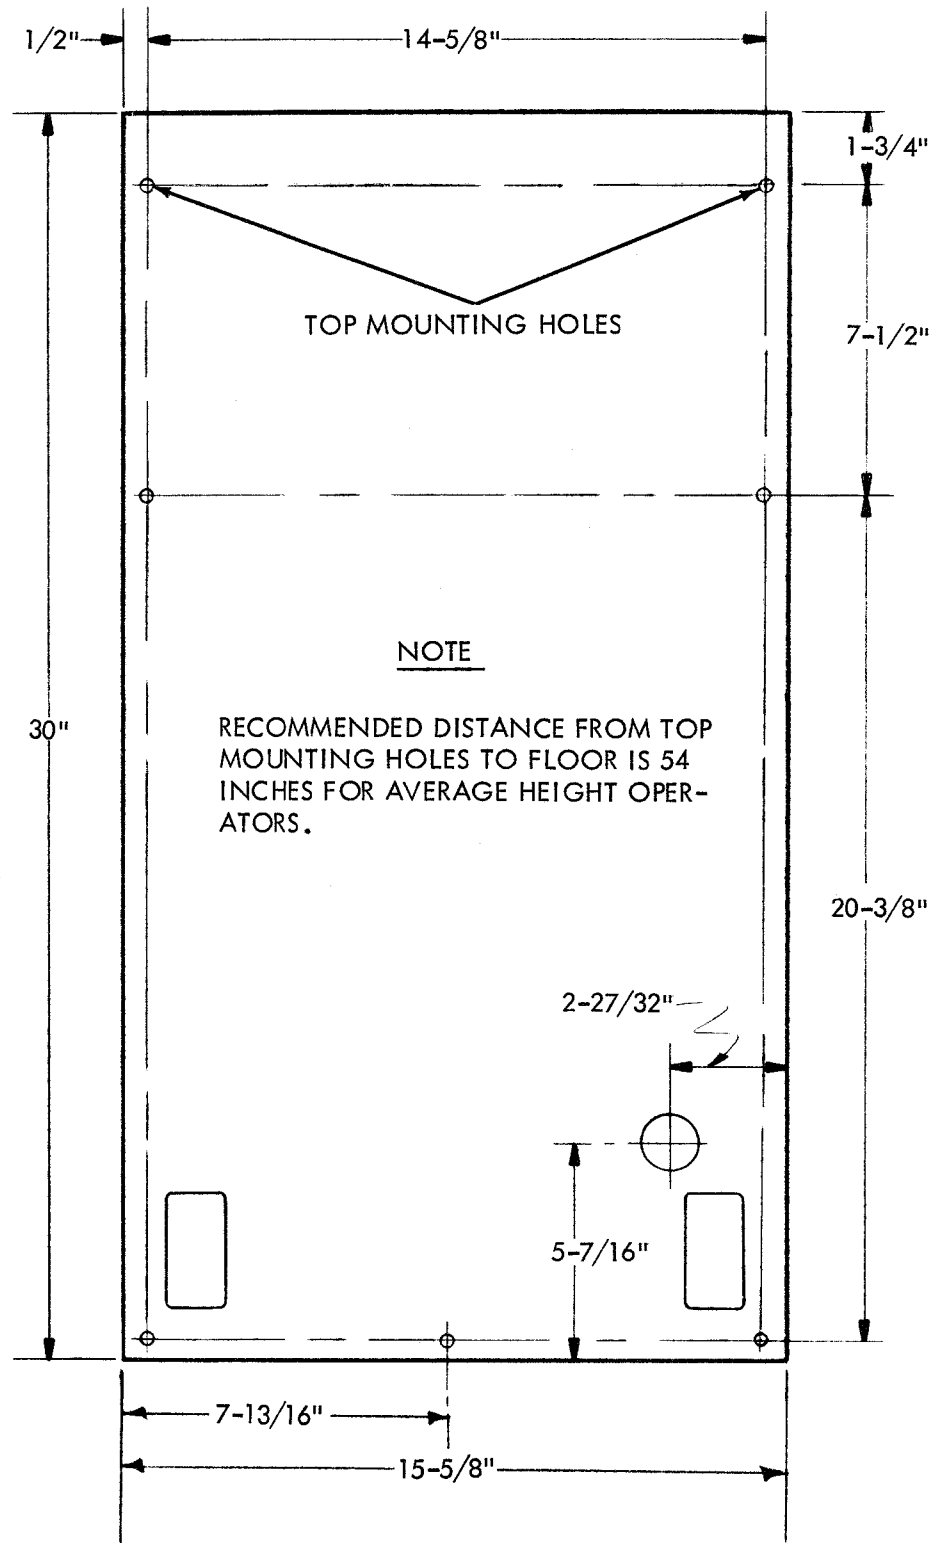

Figure 1 - Location of Mounting Holes for Back Plate
b. The locations of the mounting holes on the back plate assembly are shown in Figure 1. Since the horizontal distance between holes is 14-5/8 inches, the back plate cannot be mounted on standard 16 inch center-to-center wall studs. When attaching the back plate assembly to wall structures where the existing mounting holes are unsatisfactory, alternate holes may be added along the side and bottom edges. No mounting hardware can be located along the upper central edge since the existence of such hardware would interfere with the paper supply.
(1) Masonry Wall - Use Ackerman-Johnson retainers or tabular expansion shields (made by the Rawplug Company) with 3/16 inch diameter or #12 bolts.
(2) Hollow Wood or Tile Wall - Use 3/16 inch diameter toggle bolts.
(3) Solid Wood Wall - Use #12 round head wood screws.
(4) Lath and Plaster or Plasterboard Walls - Use 3/16 inch diameter toggle bolts. Auxiliary support may be required for these types of walls. Caution must be taken to insure that the supporting wall meets the loading requirements set forth in Paragraph 4.a.
d. As indicated in Figure 1, the recommended height from the floor to the top mounting holes is 54 inches. This distance has been found satisfactory to accommodate an average height operator. If desired, the height may be varied to meet the customer's requirements.